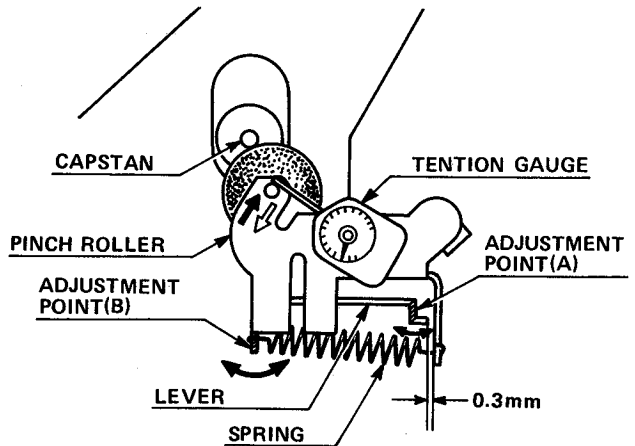

Fig. 4
1. Make sure that the clearance between the pinch roller and the lever is 0.3mm when unit is in the play mode. If not, bend the lever adjustment point (A) in the arrow direction as shown in Fig. 4 to adjust the clearance.
2. Bend the lever adjustment point (B) in the arrow directions as shown in Fig. 4 so that the tension by pinch roller may be $310g \pm 40g$ when keeping apart pinch roller from capstan (about 0.2mm) and returning it to rotate.